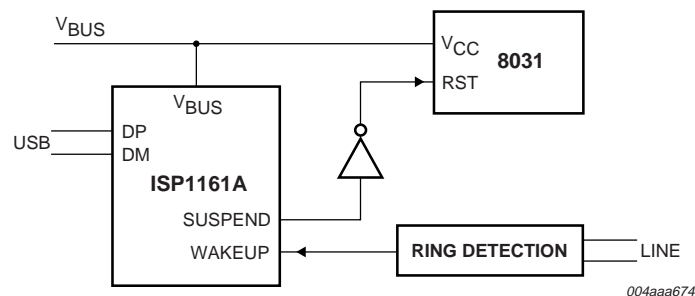

Fig 39. SUSPEND and WAKEUP signals in a powered-off modem application.
**Powered-off application:** Figure 39 shows a typical bus-powered modem application using the ISP1161A1. The SUSPEND output switches off power to the microcontroller and other external circuits during the suspend state. The ISP1161A1 DC is woken up through the USB bus (global resume) or by the ring detection circuit on the telephone line.